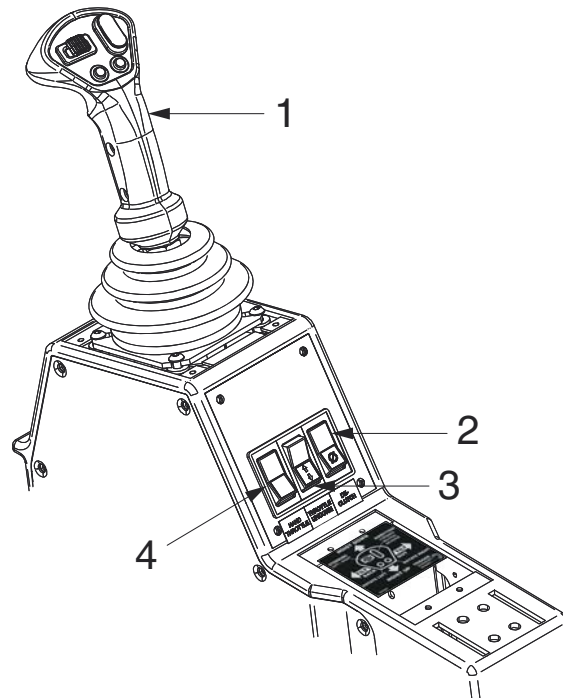

Figure 2-4-4 Right Hand Joystick Detail
Adjusts RPM's up or down when adjacent switch item 3 (see Figure 2-4-4) is engaged.
Overrides foot throttle. To engage flip switch into the on position. Used with item 4 (see Figure 2-4-4).